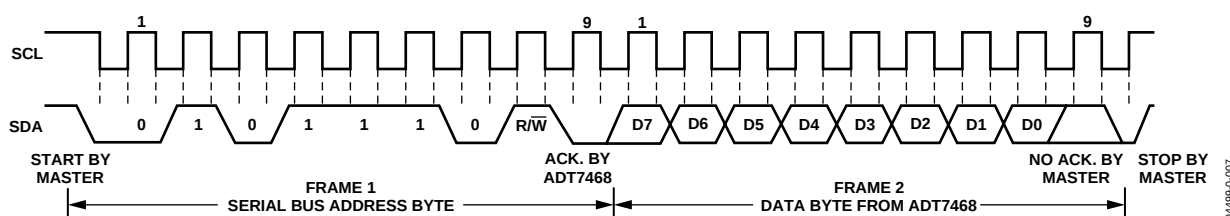

Figure 18. Reading Data from a Previously Selected Register
A read operation is then performed consisting of the serial bus address, $R/\overline{W}$, bit set to 1, followed by the data byte read from the data register. This is shown in Figure 18.
- If the address pointer register is known to be at the desired address, data can be read from the corresponding data register without first writing to the address pointer register, as shown in Figure 18